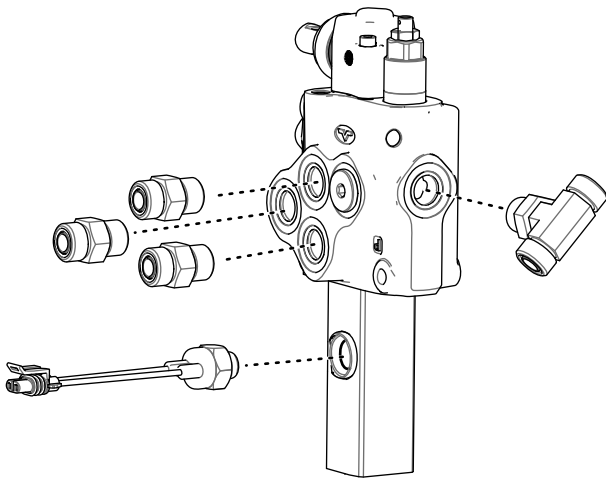

Figure 12
1. Remove the 3 straight fittings from the side of the valve (Figure 12).
2. Remove the tee fitting from the back of the valve (Figure 12).
3. Remove the ball switch from the side of the auxiliary valve (Figure 12).